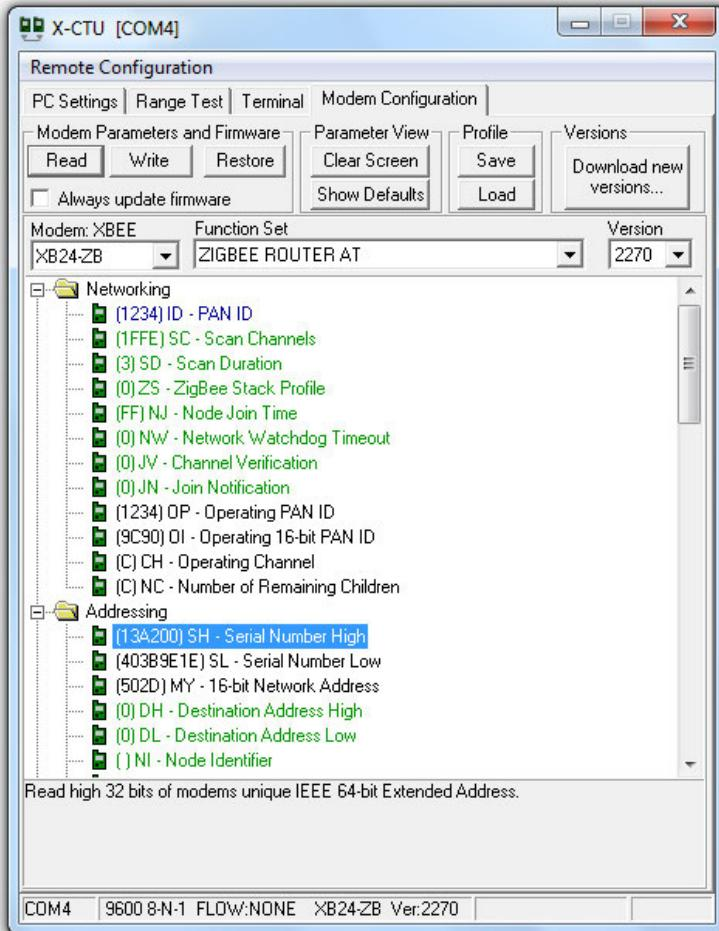

Figure 14-6. Looking up the high and low serial numbers in X-CTU
The first two commands are similar to what is shown in the Series 1 configuration at the end of Recipe 14.2, but the numbers are longer. That's because the example shown in that recipe's Solution uses Series 2–style addresses. As you saw in Recipe 14.2, you can specify the address of a Series 1 XBee with the `ATMY` command, but in a Series 2 XBee, each module has a unique address that is embedded in each chip. You can look up the high (`ATDH`) and low (`ATDL`) portions of the serial number using X-CTU, as shown in Figure 14-6. The numbers are also printed on the label underneath the XBee.
□ You can look up the high (ATDH) and low (ATDL) portions of the serial number using X-CTU, as shown earlier in Figure 14-6. The numbers are also printed on the label underneath the XBee.